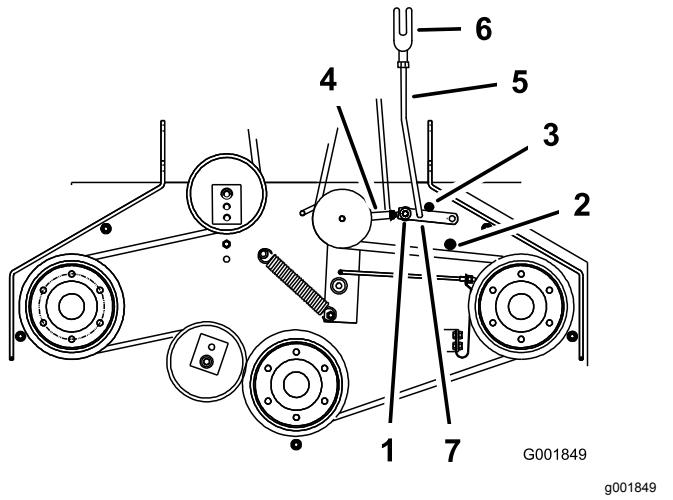

Figure 50
5. Make sure that the assist arm is against the rear assist arm stop on the deck (Figure 50).
7. The assist arm should contact the front assist arm stop on the deck. If it does not contact, adjust the bellcrank so it is closer to the gusset (Figure 50).
8. To adjust the assist arm link, remove the hairpin cotter from the assist arm (Figure 50).
11. Install the assist arm link into the assist arm and secure it with the hairpin cotter (Figure 50).